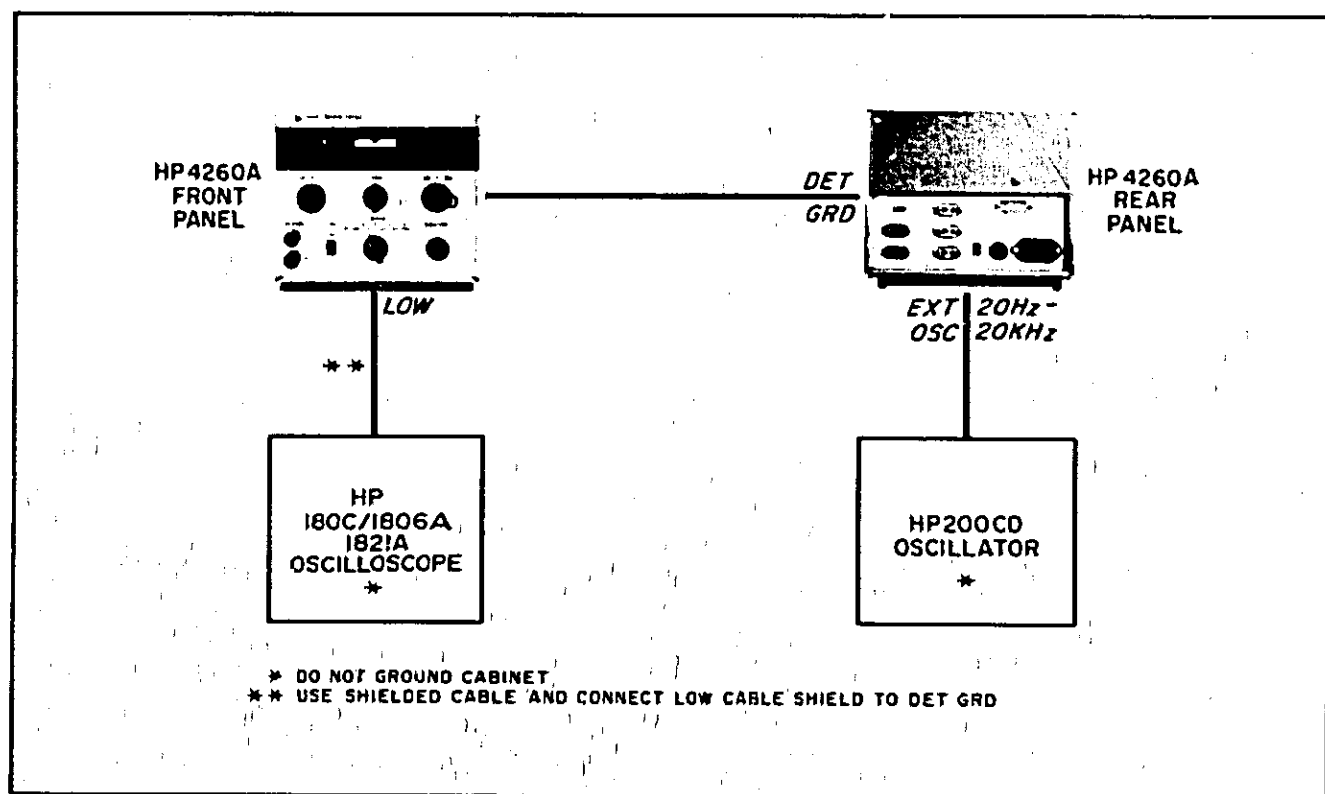

Figure 5-5. Test Setup for Adjustments
5-31. C1 CHECK. To check fixed bridge capacitor C1, connect the instruments as shown in Figure 5-5.
a. Connect the test setup as shown in Figure 5-5.
a. Connect test equipment setup as shown in Figure 5-5.
- a. Connect test equipment as shown in Figure 5-5.
- a. Connect test equipment setup as shown in Figure 5-5.
- a. Connect test setup as shown in Figure 5-5.